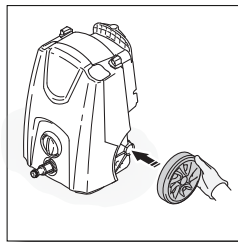

Fig. 2
- The **BLUE CLEAN POWER WASHER** requires some minor assembly, handle and wheels. Slide handle from front of the washer toward the back and fasten with screws (Fig. 1). Press wheels into place on either side (Fig. 2).